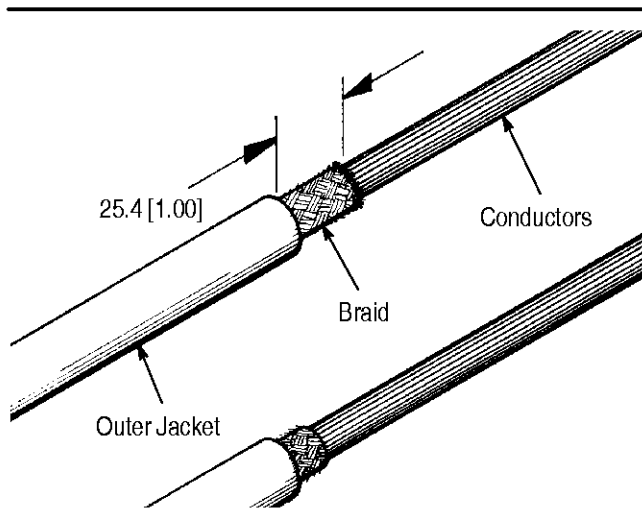

Figure 3
3.2. Braid Shield Application (Figure 3)